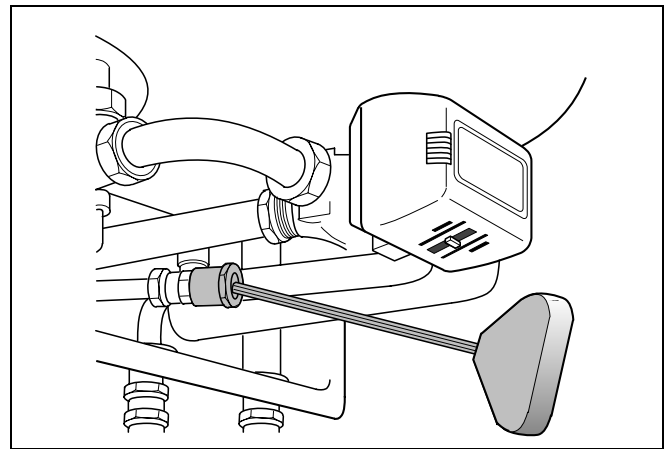

fig. 33 Hot water flow volume limiter
- Set the desired value on the flow volume limiter (fig. 33), e.g. for 60 °C at 6 liters/min for type 800 – 24T25 or 8 liters/min for type 800 – 29T25.